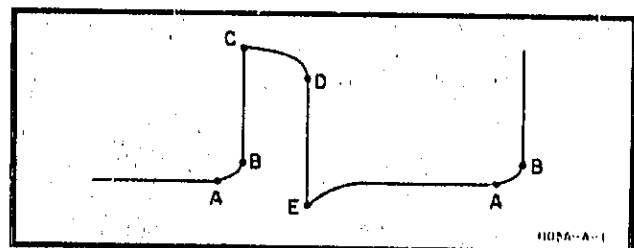

Figure 5. Typical Tunnel Diode Output Waveform
23. In the triggered mode of operation, the output from the Model 1105A initially biases the tunnel diode at point A (steady state condition) on the characteristic curve. When an external trigger is applied, the trigger current level causes the tunnel-diode bias level to shift to point B (negative resistance region on the characteristic curve) and the tunnel-diode operating point rapidly switches to point C. During the switch time, the current across the tunnel diode remains relatively constant, because of the action of inductor L1, while the voltage makes a rapid change across the load. This rapid voltage change produces a voltage step with a risetime of approximately 20 ps. Inductor L1 maintains a constant current through the tunnel diode for approximately 100 ns. As the current through inductor L1 decreases, the tunnel-diode operating point drops to point D on the curve (negative resistance region) and the tunnel diode rapidly switches to point E. The bias output from the Model 1105A restores the tunnel-diode operating point to point A on the curve and the tunnel diode remains in this steady state condition until again triggered. A typical output waveform is shown in Figure 5.